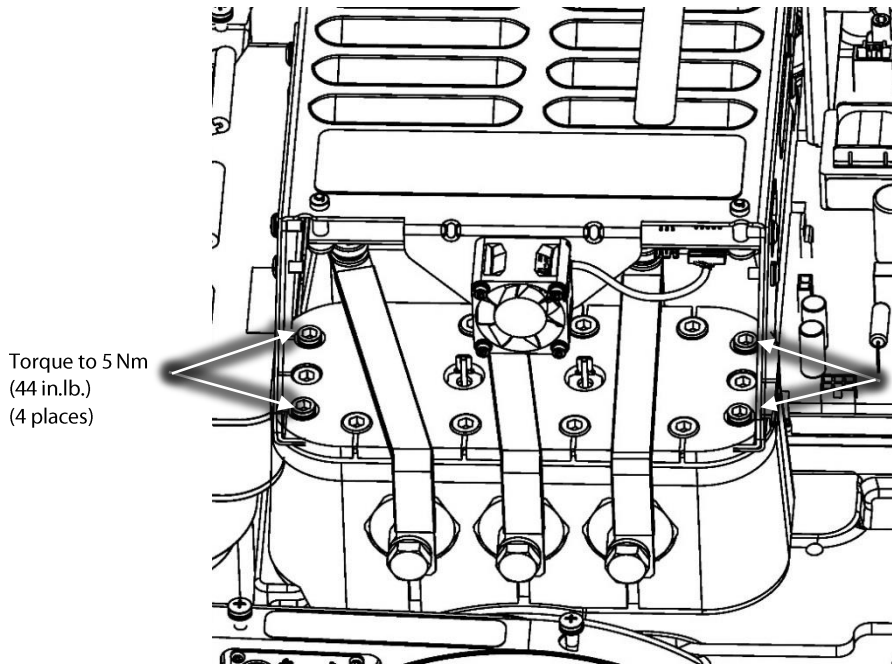

Figure 3 – Soft Start Mounting Screws
10. Remove the fasteners that secure the Soft Start mounting bracket to the compressor. Refer to Figure 3 (Soft Start Mounting Screws).